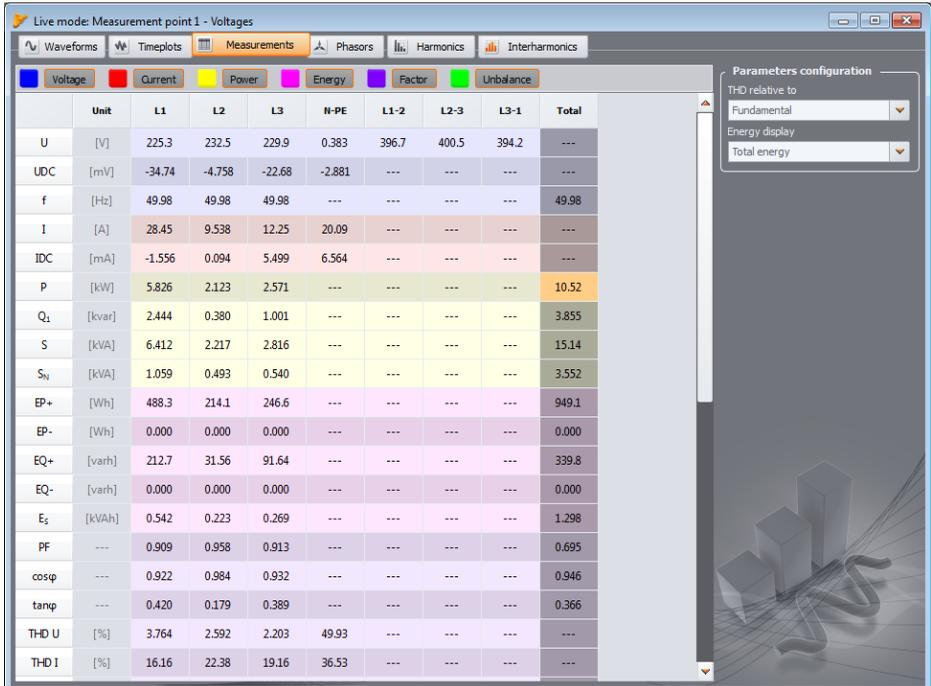

Fig. 50. Indications of phase and total values
**MEASUREMENTS** tab provides a view of a range of parameters of the measured mains. Fig. 50 presents an example of a screen that shows a summary table of values read from the analyzer and displayed in real time.